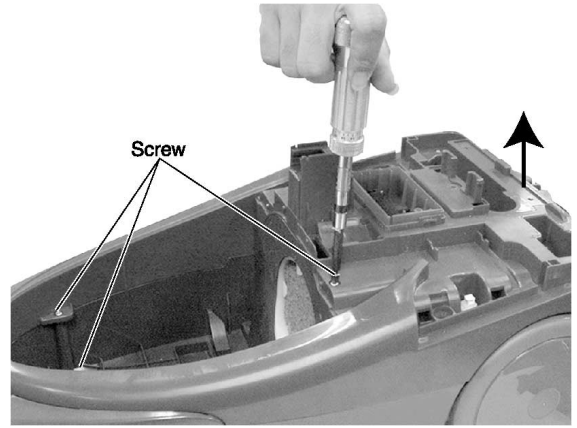
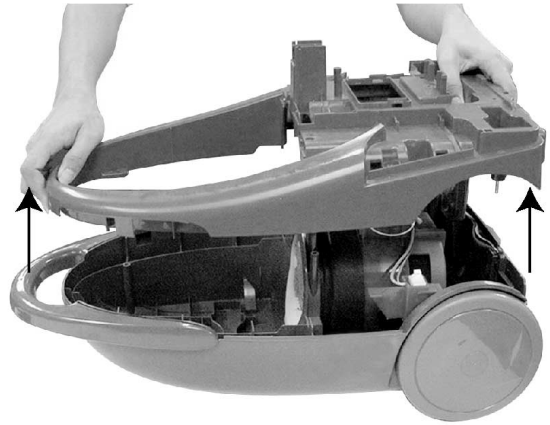

Fig.10
Fig.11
10. Remove the upper Body screw (6pcs) and pull upward.(Fig 10 ~ Fig 11).